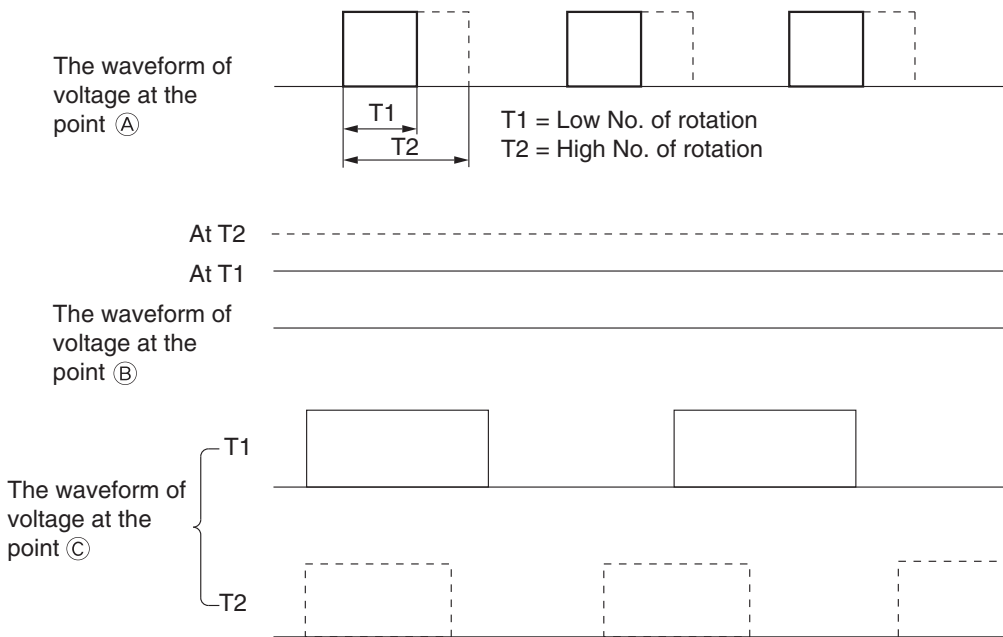

Fig. 3-2
- The 610Hz PWM pulse shown in Fig. 3-2 from the microcomputer pin 45 is output to point A. The width of this pulse changes with instruction number of rotations.